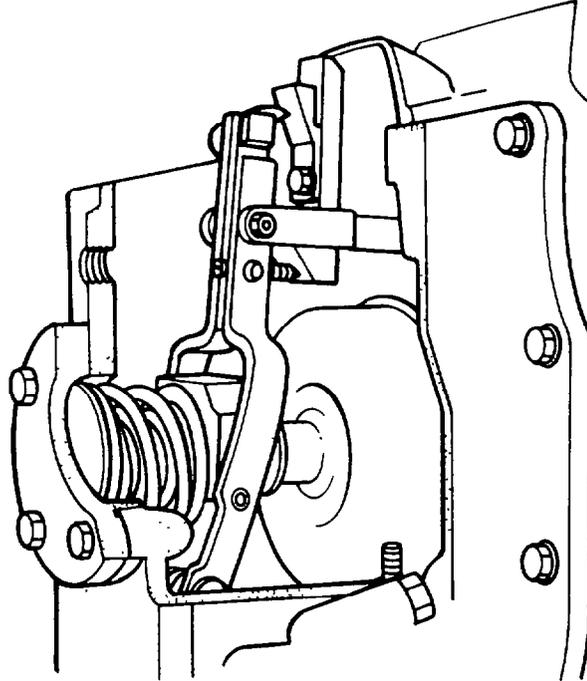

Fig. 114 — Cam Nose/Stop Plate Relationship at Full Speed RPM
- a. Back out the droop screw and deactivate the stop plate assembly (move toward the pump). This is done to provide sufficient control rack (item 75) travel to adjust the pump.
- c. Move the operating lever into the full load position and adjust the governor stop plate horizontally to contact the cam nose at 29.845 mm (1.175 in.) full load rack extension as shown in fig. 114.